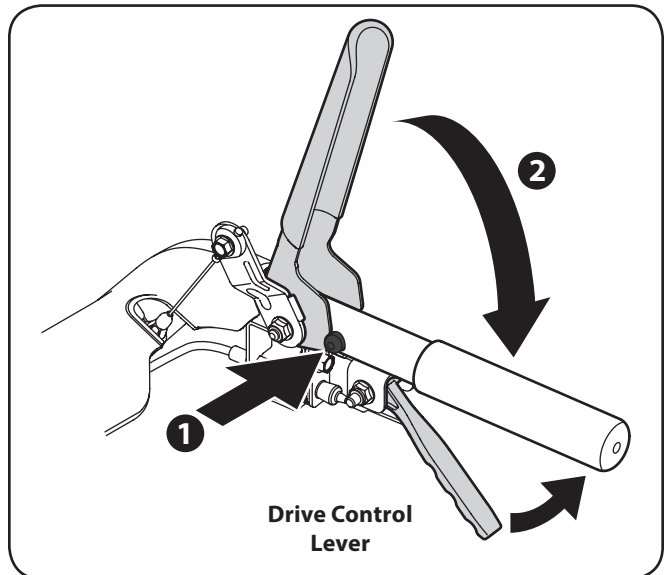

Figure 5-8
1. Press the Attachment Control Safety Lock (red button) on the right handle, as shown in 1 of Figure 5-8.
2. With the red button pressed in, pivot the Attachment Control Lever downward towards the handle (2).